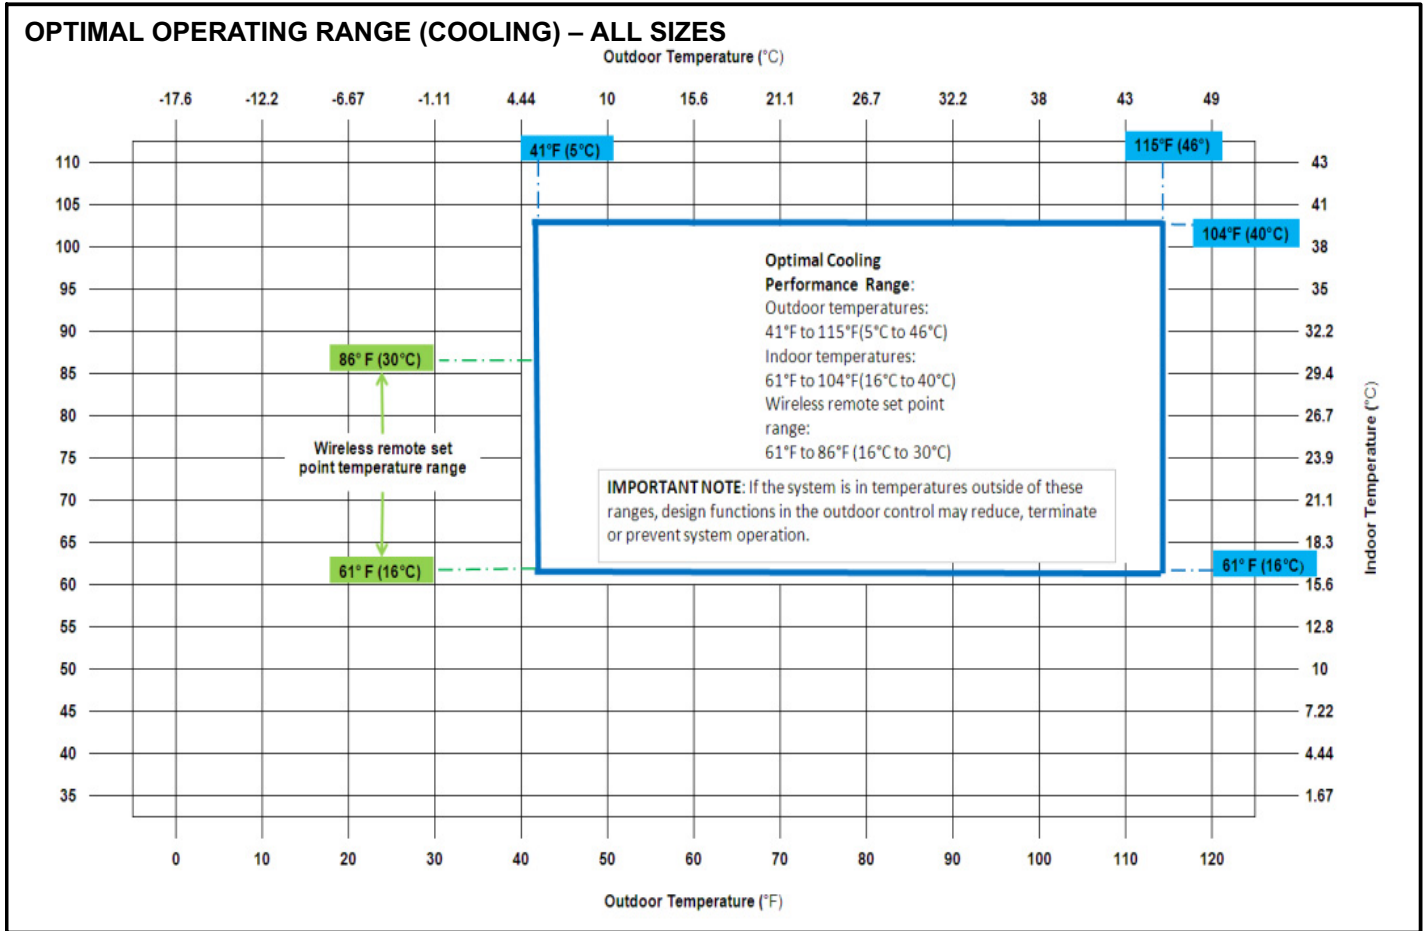

FIGURE 63
- * The outdoor unit operating ranges are listed in figures 63 and 64.